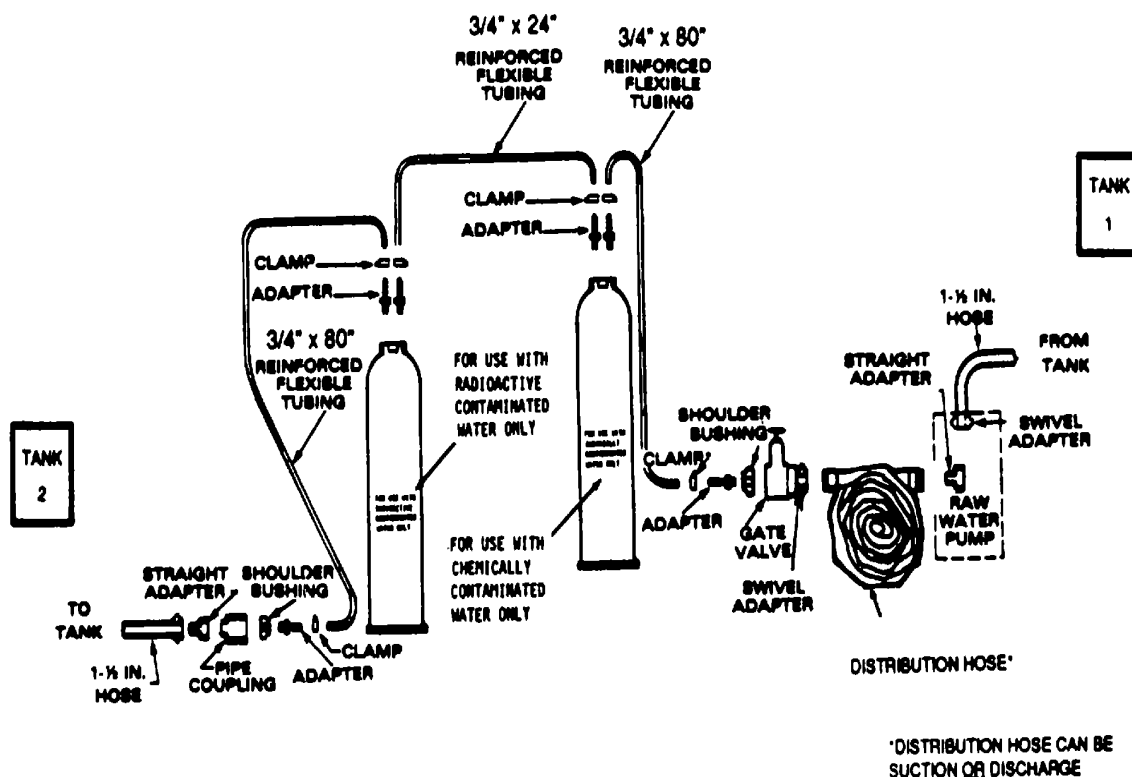

Figure 2-83. Nuclear and Chemical Filter Installation
d. Use one of the raw water pumps to force the water through the NBC cartridges. Install raw water pump (fig. 2-83).
- (1) Install 1 1/2 in. suction hose from raw water tank and swivel adapter on raw water pump.
- (2) Attach female end of distribution (suction or discharge) hose to straight adapter on raw water pump.
- (3) Attach swivel adapter to gate valve and attach male end of distribution hose to swivel adapter.
- (4) Attach shoulder bushing and adapter to gate valve.
The NBC cartridges should be positioned so that the cartridge marked 'FOR USE WITH CHEMICALLY CONTAMINATED WATER ONLY' is **FIRST** in the series. Position the cartridge marked "FOR USE WITH RADIOACTIVE CONTAMINATED WATER" so that water is filtered through this cartridge **LAST** as shown in fig. 2-83
e. Assemble the NBC cartridge in series (fig. 2-83).
- (5) Cut one section of 3/4 in. x 80 in. flexible tubing to a maximum length of 24 in.
- (6) Slide clamp over end of tubing.
- (7) Remove plug from OUTLET port on FOR USE WITH CHEMICALLY CONTAMINATED WATER cartridge and insert adapter into cartridge.
- (8) Attach tubing to adapter on OUTLET port and close clamp.
- (9) Remove plug from INLET port on FOR USE WITH RADIOACTIVE CONTAMINATED WATER cartridge and insert adapter into cartridge.
- (10) Slide clamp over end of tubing.
- (11) Attach tubing to adapter on INLET port and close clamp.
- (12) Slide clamp over end of second section of 3/4 in. x 80 in. flexible tubing.
- (13) Remove plug from OUTLET port on FOR USE WITH RADIOACTIVE CONTAMINATED WATER cartridge and insert adapter.
- (14) Attach tubing to adapter on OUTLET port and close clamp.
- f. Complete connection of NBC cartridge to second raw water tank (fig. 2-83).
- (1) Slide clamp over remaining end of 3/4 in. x 80 in. flexible tubing.
- (2) Insert adapter into tubing and close clamp.
- (3) Attach shoulder bushing, pipe coupling, and straight adapter to 1 1/2 in. discharge hose and connect to second raw water tank (fig. 2-83).